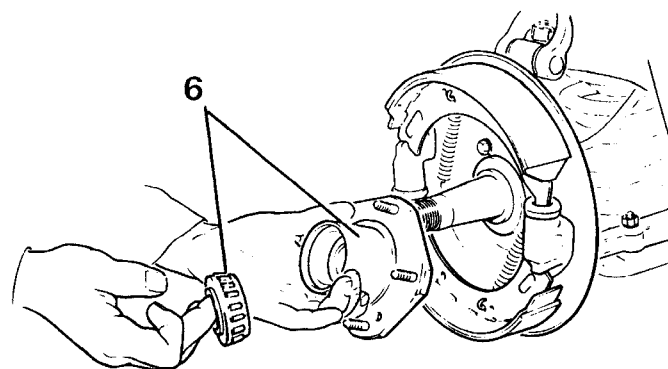

Figure 3
6. Withdraw the hub. The two bearings, distance piece and oil seal will also be withdrawn in this operation. See figure 3.